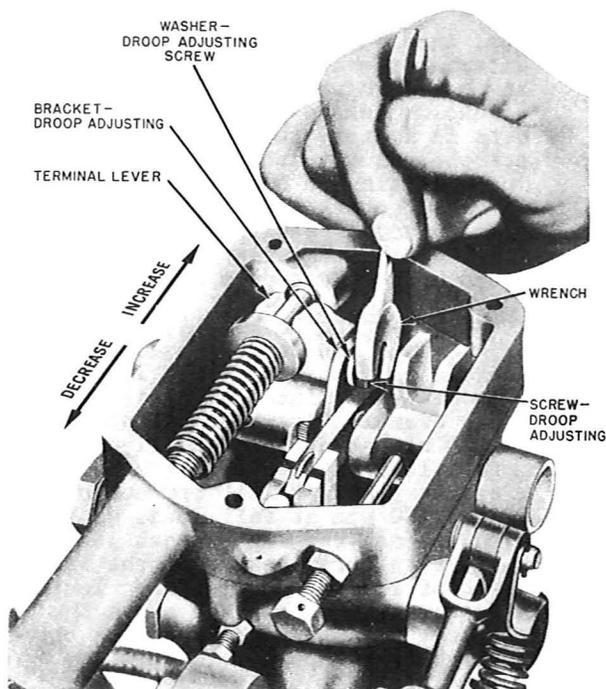

Fig. 5 - Adjusting Speed Droop on Hydraulic Governor
(3) If, after satisfactorily completing the checks outlined in (1) and (2), it is determined that neither load nor engine irregularities are the cause of speed variations, the trouble may be either in the governor or the governor drive. If the speed changes in regular oscillations, usually called hunting, it can possibly be corrected (see Fig. 5) by increasing the speed droop. By speed droop is meant the characteristic of decreasing speed with increasing load. As indicated in Fig. 5, moving the droop adjusting bracket towards the engine will decrease and away from the engine will increase the amount of droop. The bracket can be moved after the droop adjusting screw has been loosened.